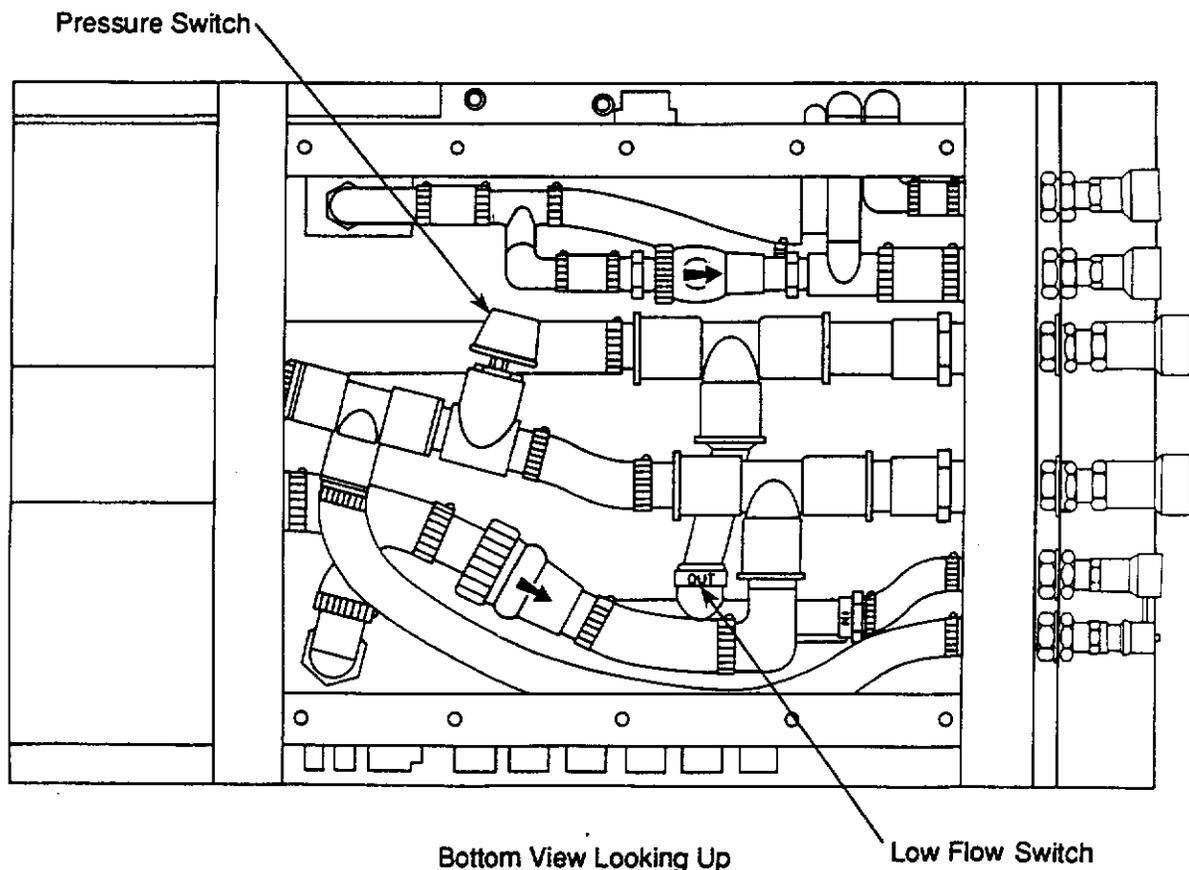

Figure 3-8. Low Flow and Pressure Switches
3.20 Replace Low Flow to Blanket Switch (See figure 3-8.)
3.21 Pressure Switch (See figure 3-8.)